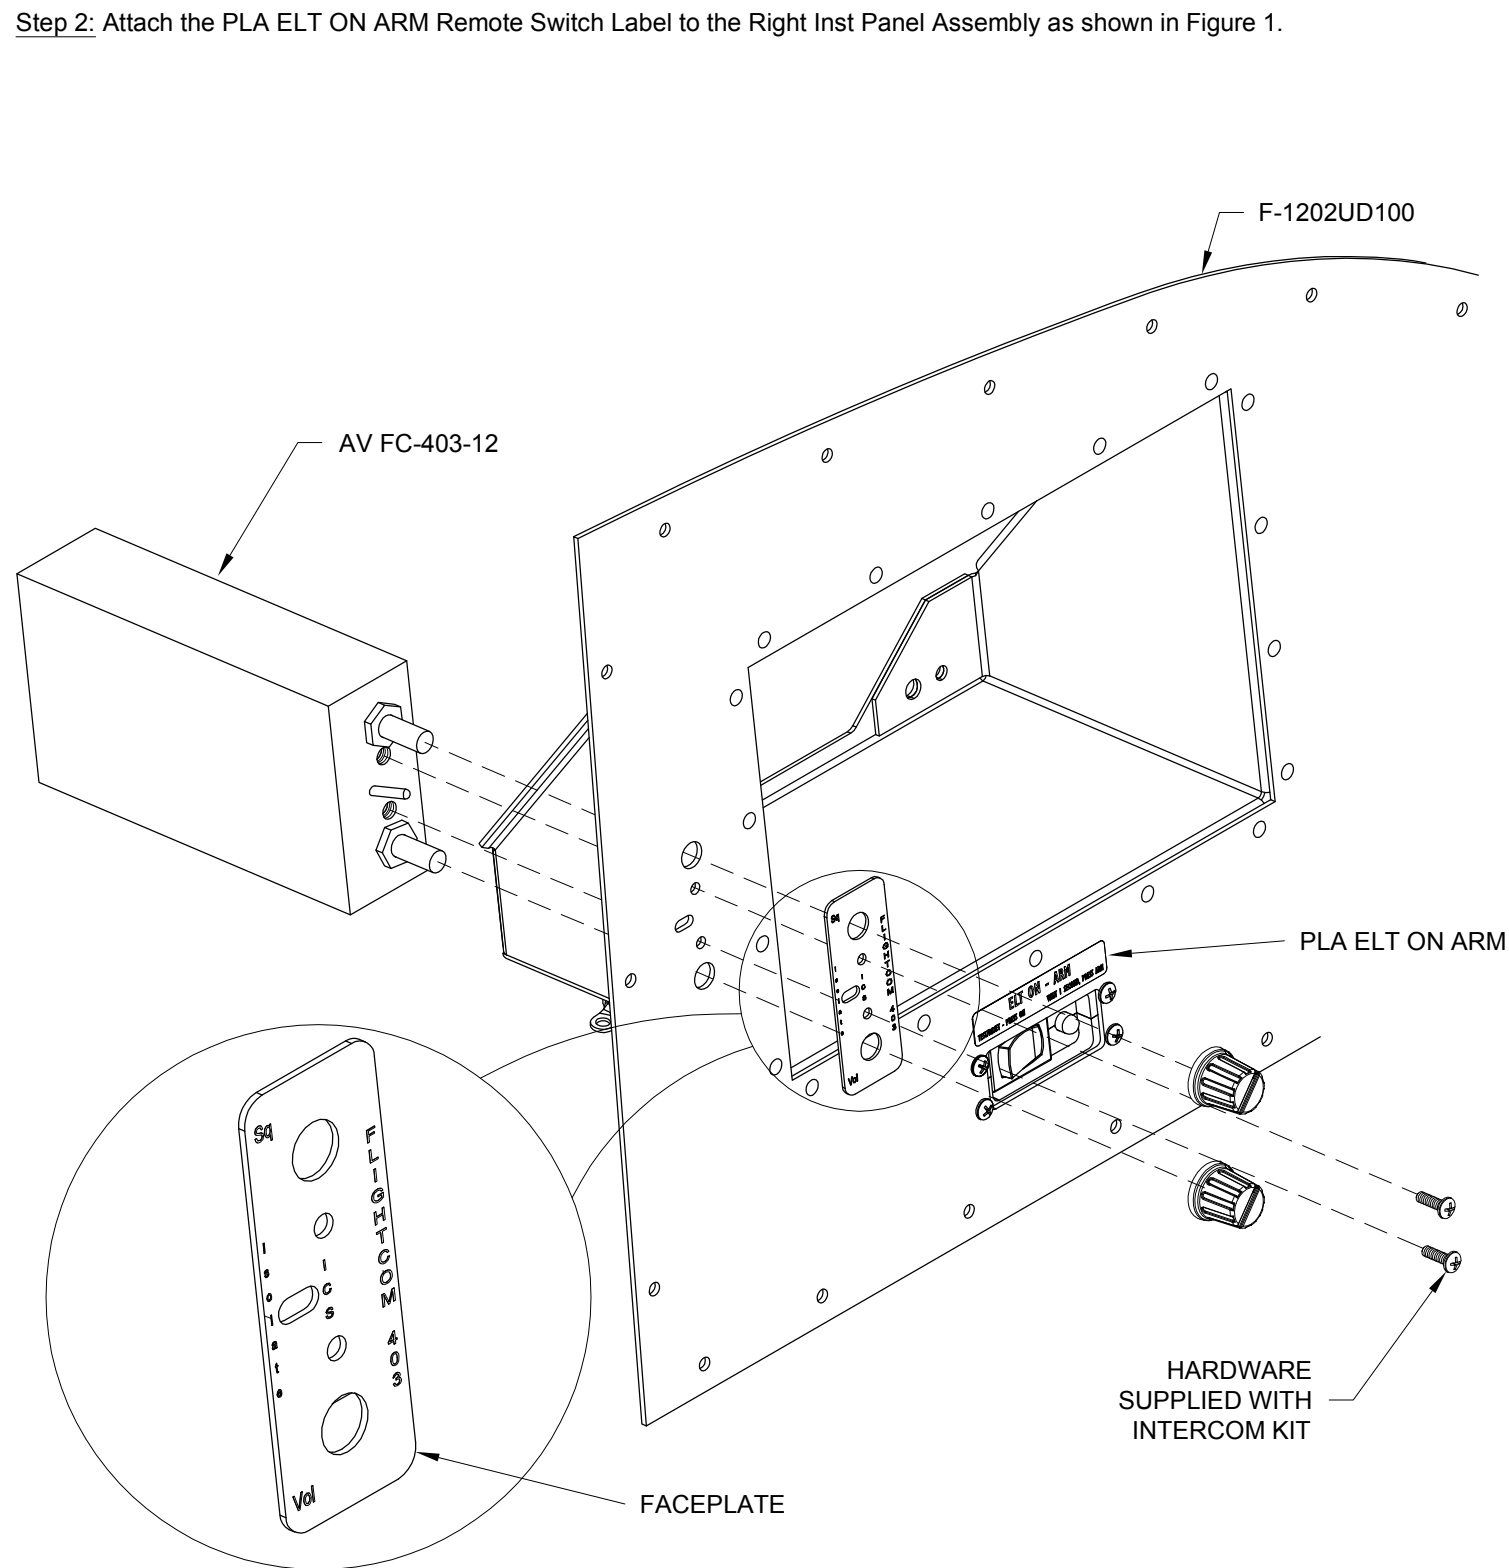

FIGURE 1: INSTALLING THE PANEL MOUNT STEREO INTERCOM
Use the side of the Faceplate designed for vertical positioning as shown in Figure 1. Attach the knobs so they point to the 7 o'clock position when rotated completely counterclockwise. Hereafter refer to this assembly as the Right Inst Panel Assembly.
Step 2: Attach the PLA ELT ON ARM Remote Switch Label to the Right Inst Panel Assembly as shown in Figure 1.